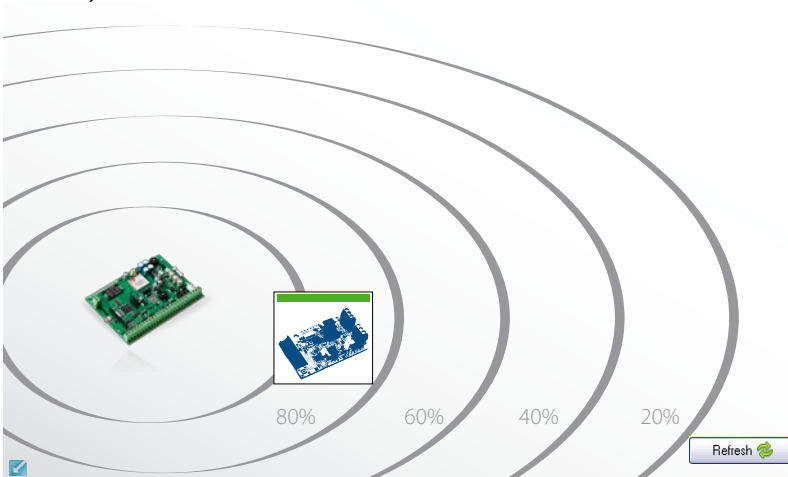

Fig. No. 7
7. Bind the device to the alarm system using *ELDES Configuration Tool* software. Open **Wireless Devices** section and enter a 8-digit wireless device ID located on the EW1B enclosure and press **Add** button (see Fig. No. 7). The device can also be bind by sending a corresponding command via SMS message. For more details, please, refer to the software's HELP section and ELDES alarm system installation manual.